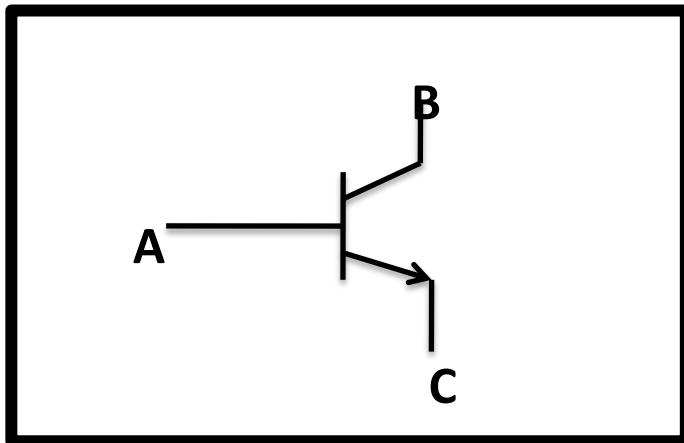

FIGURE 1
- 9.1 Study FIGURE 1 below and answer the questions.